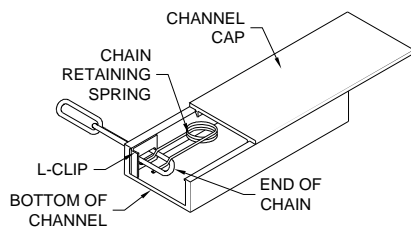

Fig. 6-1
1. Insert the end of the chain into the last slot located $\frac{1}{2}$ " from the bottom of the channel. (Fig. 6-1)
4. Before installing the cap; make sure the L-Clip in Fig. 6-1 is installed. This will keep the cap from dragging the ground if the cap slides easily in the channel.